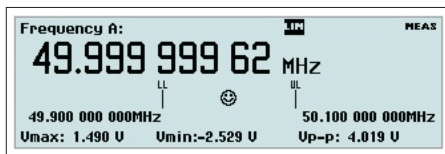

Fig. 6-3 The analog limit monitor.
The upper limit (UL) and the lower limit (LL) are vertical bars below the main numerical display, and their numerical values are displayed in small digits adjacent to the bars. See Fig. 6-3.